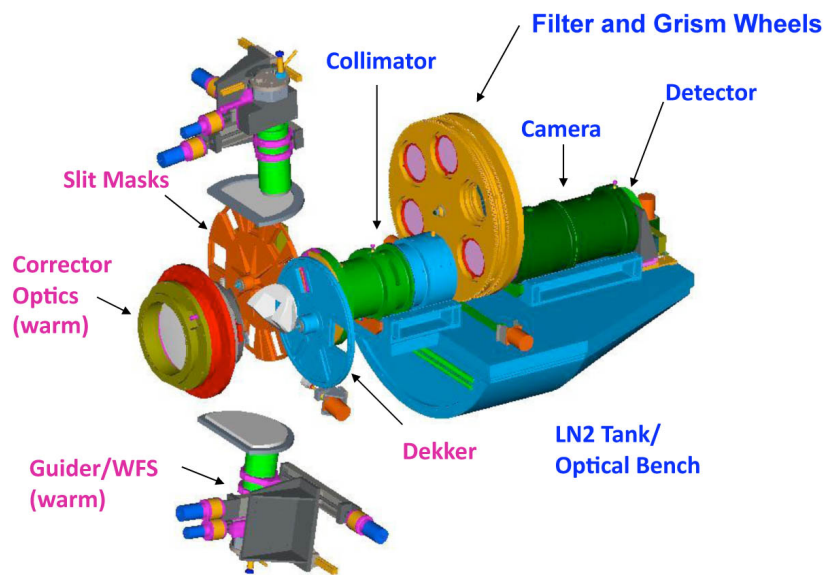
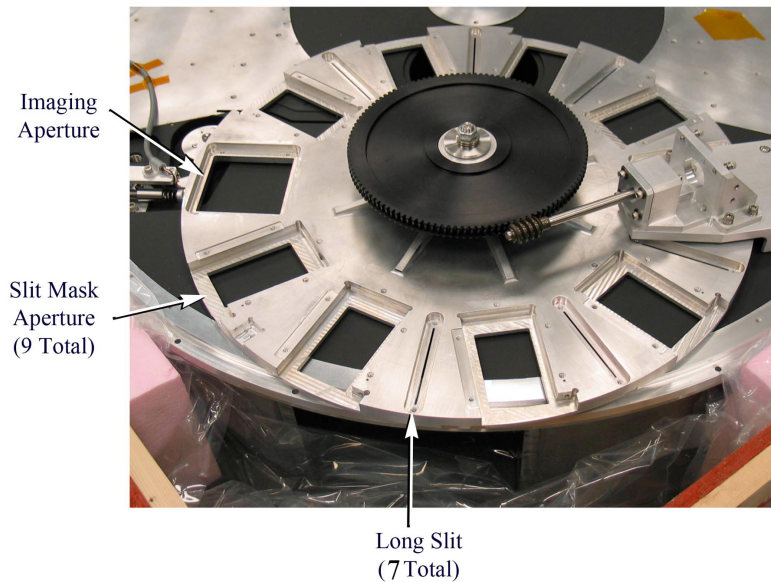

Figure 1 Cut-away CAD drawing of the MMIRS cryostat components. Major features not shown are the gatevalve and the mask section LN2 tank.
Figure 2 The MMIRS Mask Wheel
MMT and Magellan InfraRed Spectrograph (MMIRS) is a near infrared (NIR) imager and multi-object spectrograph with a 6.9'x 6.9' imaging field-of-view. The focal plane is a 2048x2048 pixel Hawaii-2RG detector with 18 micron pixels which subtend 0.2 arcsec on a F/5, 6.5m telescope. The instrument offers imaging, long-slit spectroscopy through a variety of slit widths, and multi-object spectroscopy over a 4' x 6.9' field of view. Grisms supporting spectroscopy at R=3000, R=2400 and R=1200 are available. The dual guide-probe/wavefront sensor enables continuously updated wavefront sensing. The major subsystems of MMIRS are shown in Figure 1.
The various modes and functions of MMIRS are selected with a combination of five independent wheels - the Dekker (aperture selection) wheel, the slit/slit mask, aka "MOS", wheel, two filter wheels, and the grism wheel (see Figure 1.). The MMIRS mask wheel has a combination of 9 slots for custom masks, 7 fixed long slits and 1 imaging aperture. The grism wheel can hold up to 5 grisms with one clear slot for imaging. At this time there are five grisms: H+K @ R=1200, J @ R=2400, H @ R=2400, J @ R=3000, and H @ R=3000. This spectral resolution is achieved with a 0.4" slit. The available long slits are 1, 2, 3, 4, 6, 8 and 12 pixels in width (each pixel is 0.2") - See Figure 2. The filter wheels can hold up to 10 filters with one clear slot for imaging. The current complement of filters are Y, J, H, Ks, Kspec plus blocking filters of 1.25-2.5 microns (HK), 1.25-2.34 microns (HK3) and 0.95-1.5 microns (zJ).